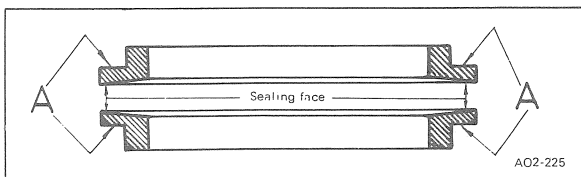
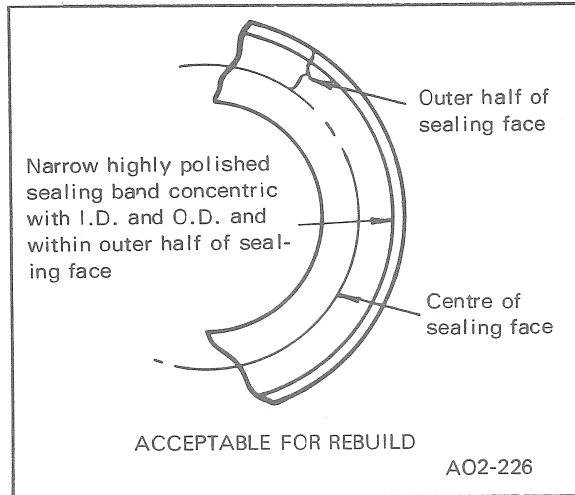

Fig. 13
Fig. 14
- (d) Inspect the steel components of the seal assembly. The lapped sealing faces (Fig. 13) must be undamaged and free from contamination. They must also be within the outer half of the ring and concentric to the circumference as shown in Fig. 14.